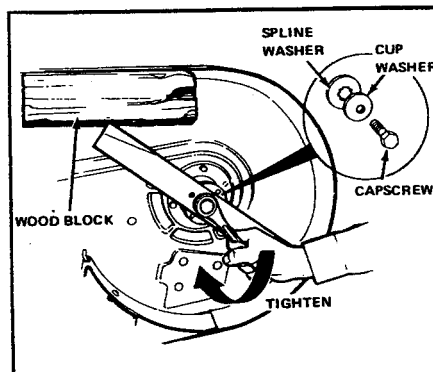

Figure 18. Installing Blade
7. Reinstall each blade with the tabs pointing up toward deck and secure with a capscrew, cup washer, and spline washer. Be sure the splines on the spline washer are aligned with the shaft and the washer is flush against blade. Be sure cup washer is installed concave side up. Use a wooden block to prevent blade rotation and torque capscrew to 50 ft. lbs. (68 N.m) (figure 18).